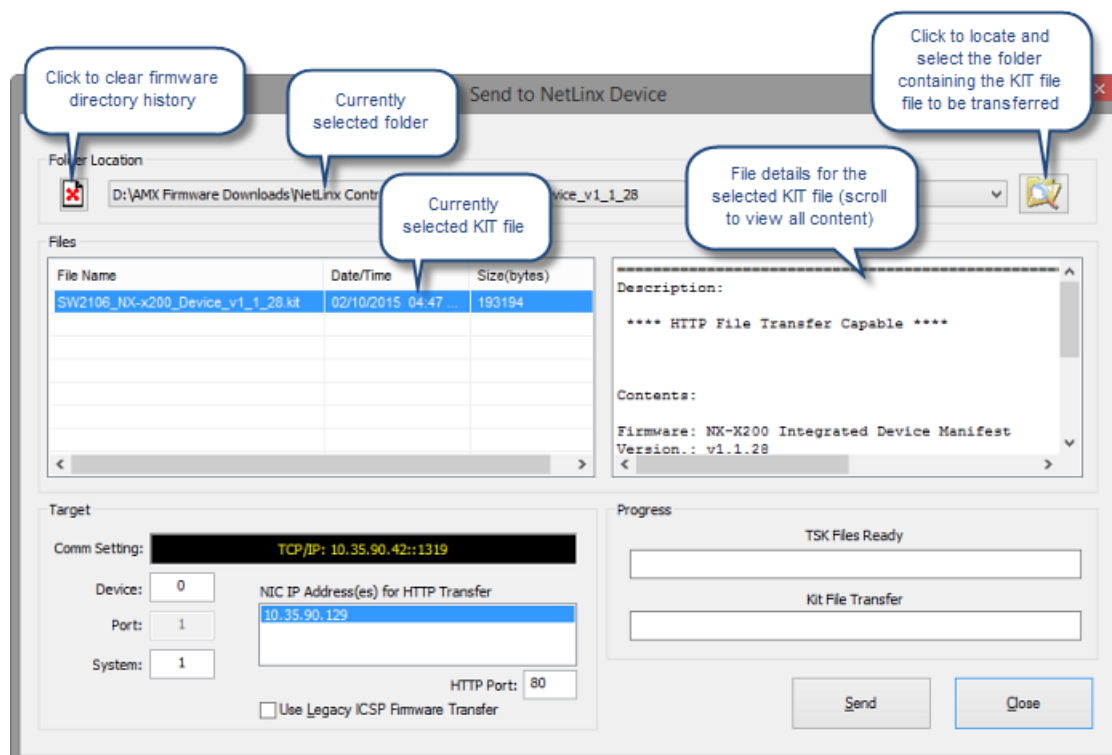

FIG. 82 Send To NetLinX Device dialog
1. Choose **Tools > Firmware Transfers > Send to NetLinX Device** to open the *Send To NetLinX Device* dialog (FIG. 82):